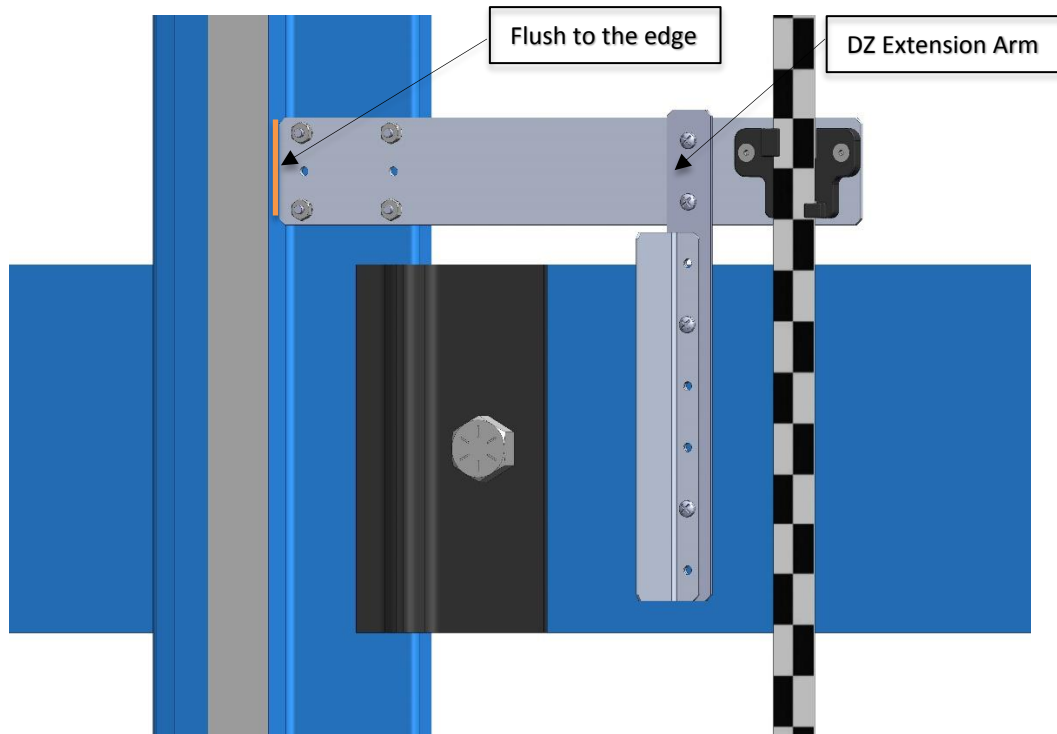

Figure 15: DZ Extension Arm
- To install the extension arm, remove the DZ Blade from the Tape Clip assembly and install Door Zone Extension Arm using the same screws, nuts and washers, as shown in figure 15.